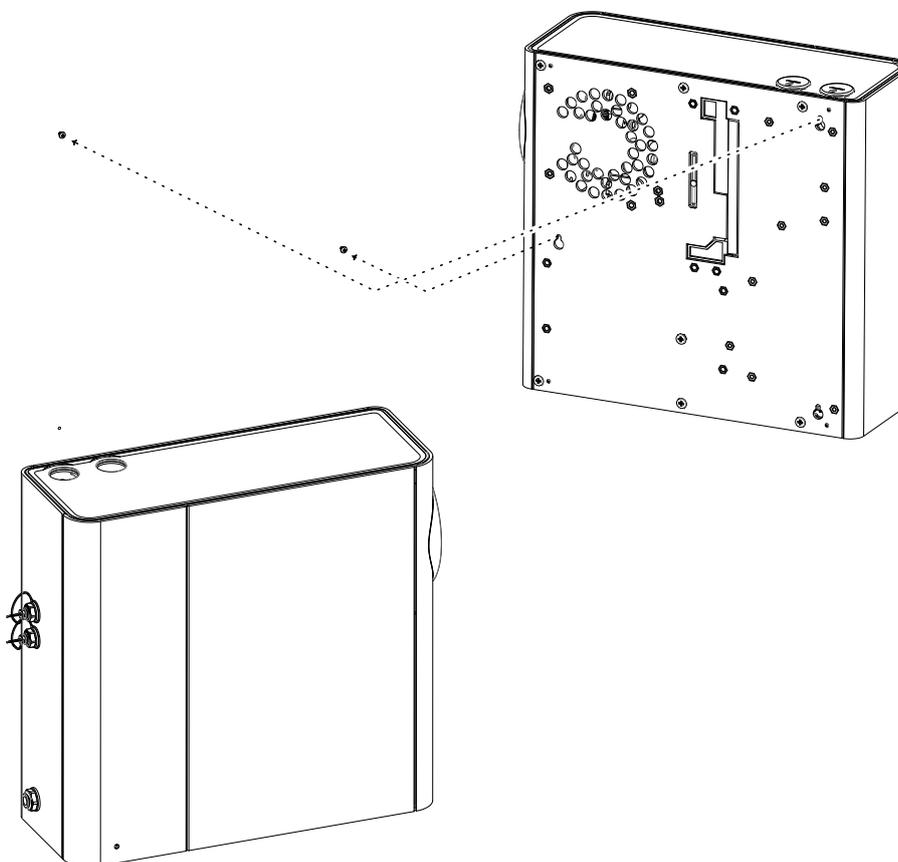

Figure A-13: Reposition the Expansion StaX above the detector
5. Reposition the Expansion StaX above the detector, inserting the two mounting screws into their respective keyholes (Figure A-13).